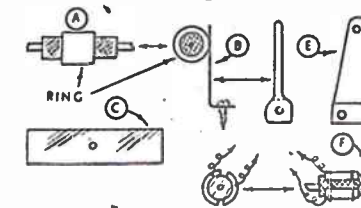

Fig. 2
The commutator is a metal slip-ring which enables the current to be taken from the winding, and is shown at (A) in Fig. 2. Any small short piece of metal